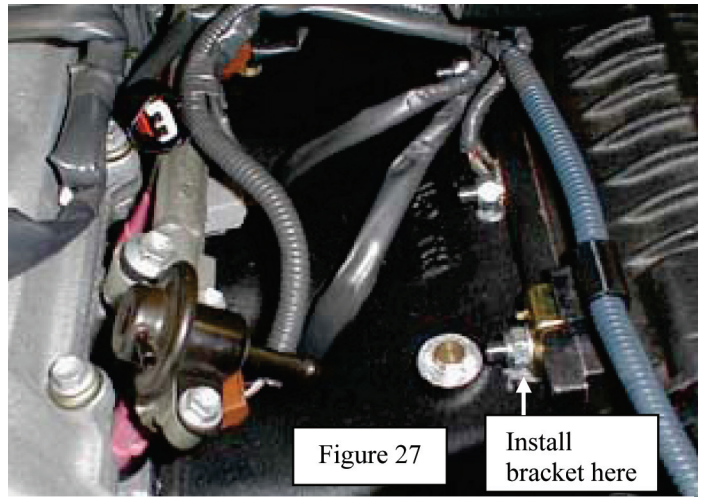

Figure 27
- 56. Reconnect power steering idle up connector. Install the OE wiring bracket on to the supercharger stud. Torque nylock nut to 15 ft-lbs. See Figure 27 .